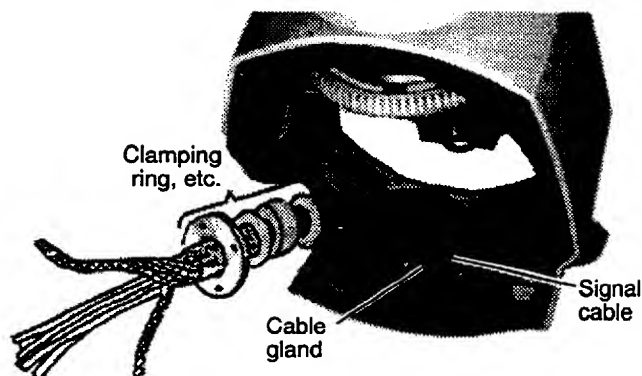

Figure 11 Passing cable gland assembly materials onto signal cable
- 4) Unfasten four fixing bolts on the cable gland at the base of the scanner unit. Remove clamping ring, rubber gasket and flat washers (2) from cable gland. See Figure 11.